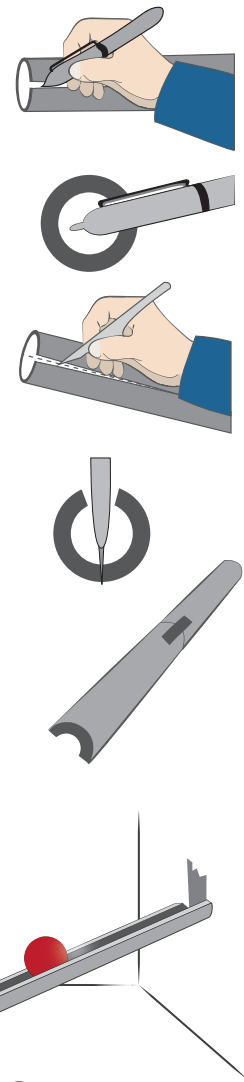

Figure 1
- » One side of the insulation is usually scored along its length for easy separation but the opposite side needs to be cut with scissors or a knife to create two open-faced “U-shaped” rollways for the marbles (see Figure 1).
3. Review the Procedure for Part A (Assembling the marble collision test track). Refer to Figure 1, and show students a sample of a complete marble test track set-up if needed. (NOTE: Long, flat tables or tile floors work well!) Once all test tracks have been assembled, instruct students to test their tracks for straight alignment by rolling a marble along the entire length of the track. Tell students to straighten and re-tape their tracks until the marble moves smoothly along the entire length of the track when released.